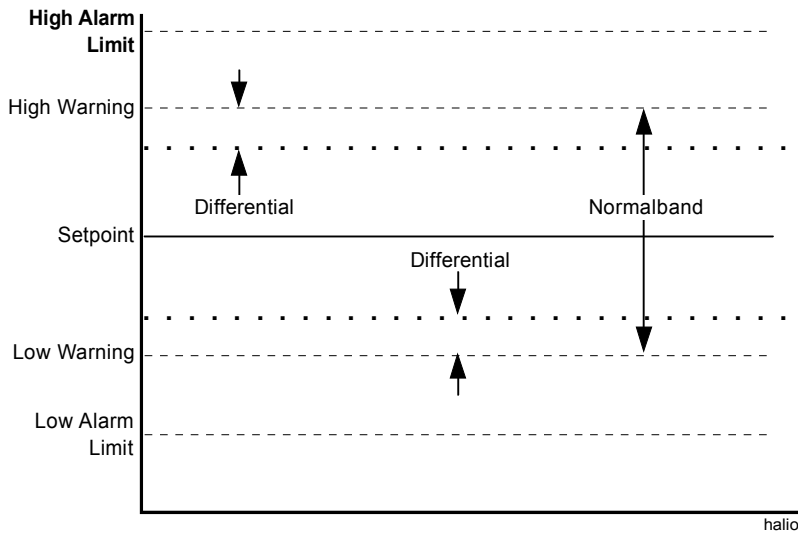

Figure 108: High Alarm Limit for AI Object
**High Alarm Limit** Optional parameter that determines when an alarm for an AI or AD object is generated. If the current value of the AI or AD object exceeds the High Alarm Limit, an alarm will be generated (Figure 108). Once the value decreases below the High Alarm Limit and Differential, the alarm clears.